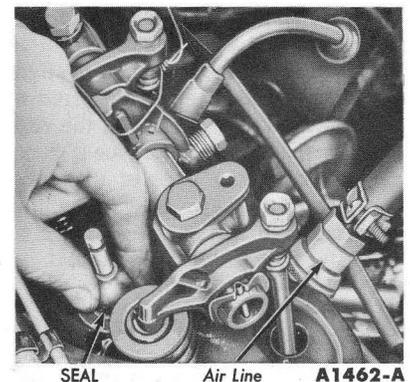

FIG. 50—Valve Stem Seal Removal
7. Remove the valve stem seal (Fig. 50).